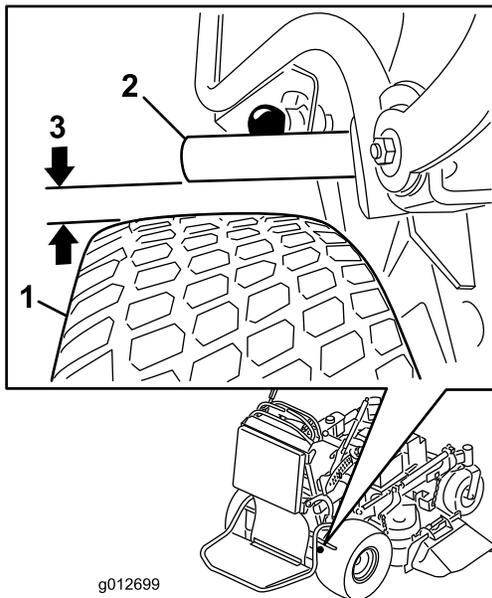

Figure 60
4. With the brake released, measure the distance between the brake bar and the tire. The distance needs be between 3/16 and 5/16 inches (5 and 8 mm) (Figure 60). Refer to Adjusting the Parking Brake when adjustment is needed.
5. Adjust the yoke. The distance between the brake bar and the tire needs be between 3/16 and 5/16 inches (5 and 8 mm). To tighten the brake, rotate the yoke up. To loosen the brake, rotate the yoke down (Figure 60).